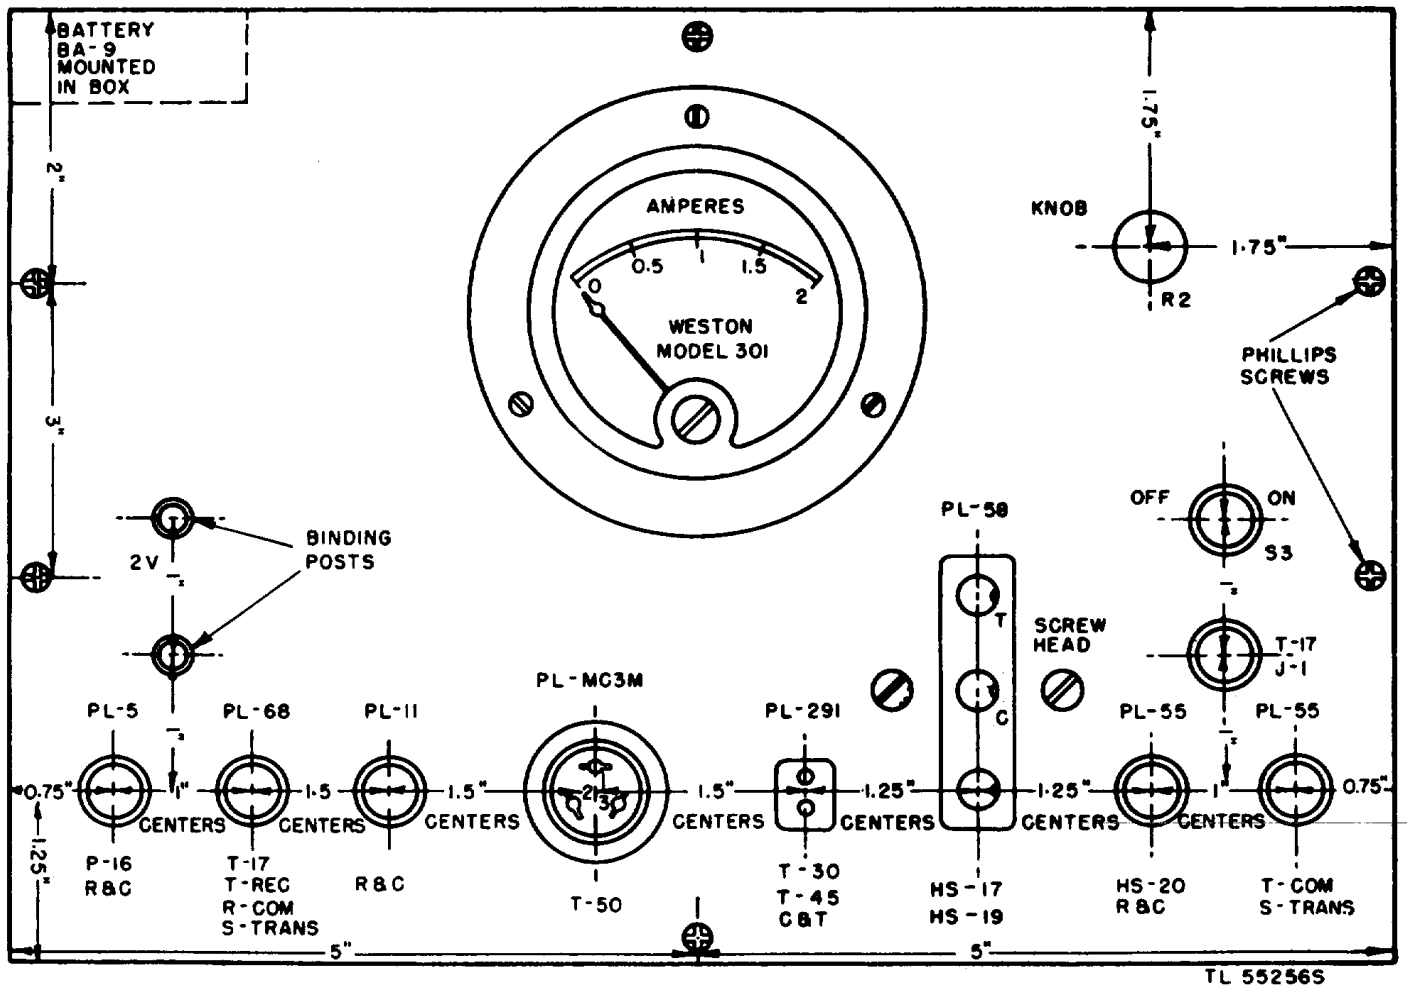

Figure 10. Jack box panel.
b. PANEL. (1) Use black bakelite or equal, three-eighths inch or one-quarter inch thick, to construct the top panel. The length is 10 inches and the width 7 inches.
(2) Drill the panel for mounting apparatus and stencil as indicated in figure 10.
c. MOUNTING. (1) Mount flush with the panel. Jacks JK-14, JK-37, JK-47, JK-48, and JK-102.